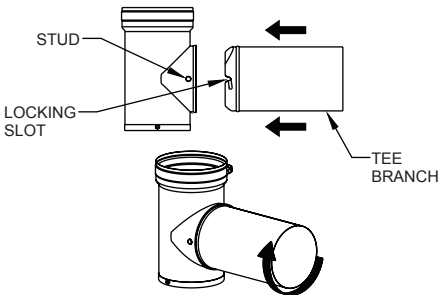

Figure 11
**Step 3.** When the Tee is in its final location, attach the Tee Branch to the main body of the Tee (**Figure 11**). Align the locking slots on the Tee Branch with the studs on the Tee then slide it into the Tee. Rotate the Tee Branch clockwise to snap it into a locked position.